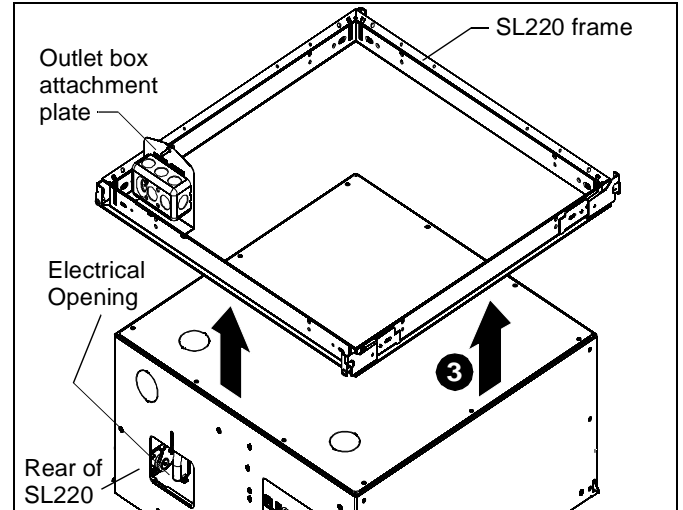
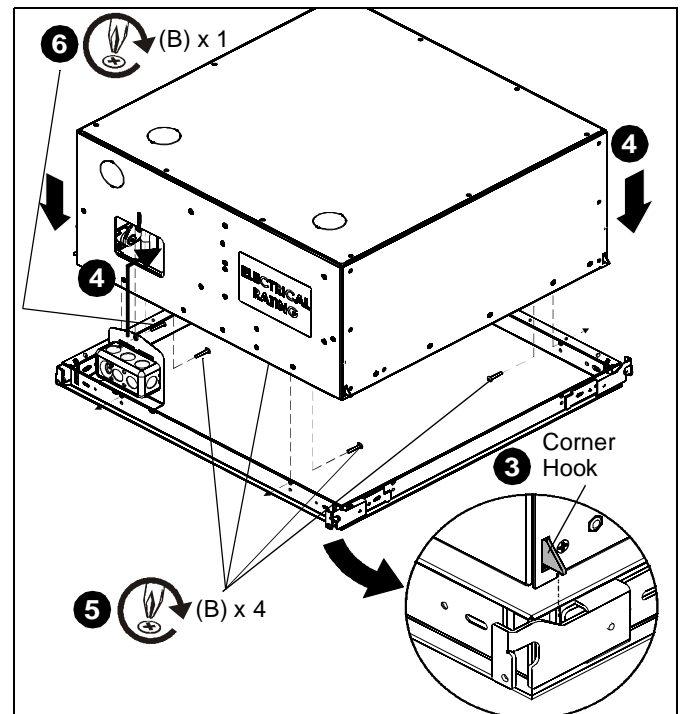

Figure 11
Figure 12
2. Orient lift assembly so that the rear of the SL220 (with the electrical opening) lines up with the outlet box attachment plate on the SL220 frame. (See Figure 11)
3. Lift SL220 lift assembly into place through the SL220 frame. (See Figure 11) Ensure that there are four audible clicks---each corner hook "clicking" into place onto the frame. (See Figure 12)
4. Lower onto SL220 frame, carefully lining up outlet box attached to SL220 frame, with opening at rear of SL220. (See Figure 12)
5. Secure the SL220 to the SL220 frame using four 8-32 x 1" Phillips head screws (B), two in the front and two in the back of the SL220. (See Figure 12)
6. Secure the outlet box attachment plate to the SL220 using one 8-32 x 1" Phillips head screw (B). (See Figure 12)